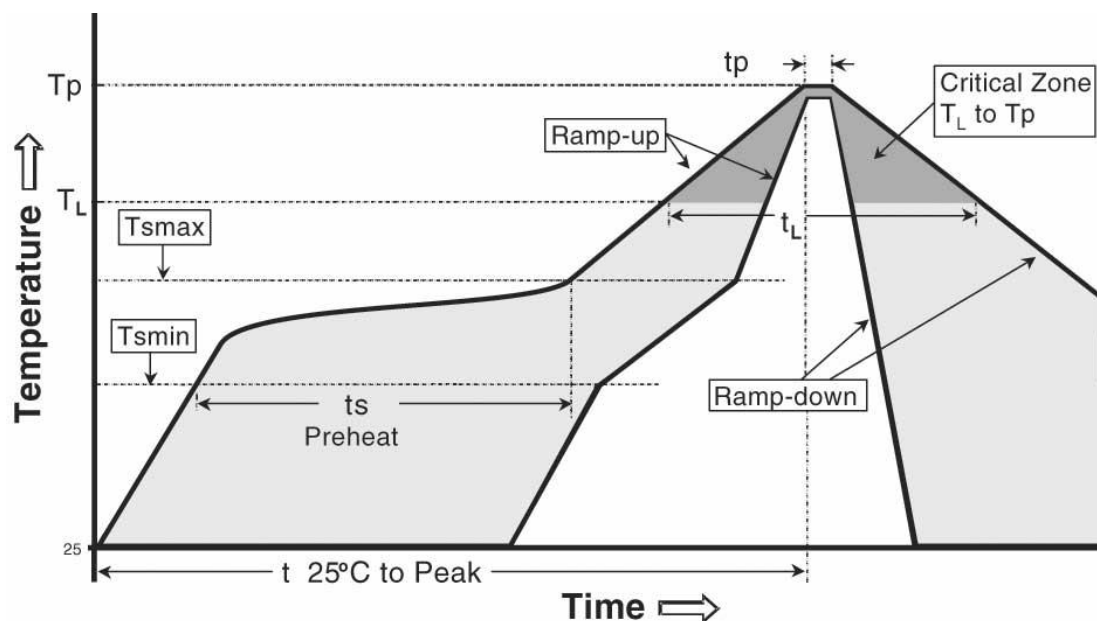

Figure 6 – Temperature profile
2. Perform a reflow process according to the temperature profile detailed in table 3, figure 6 of page 10.